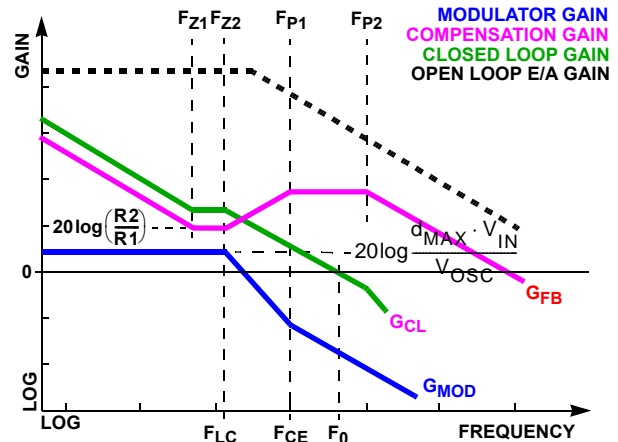

FIGURE 27. ASYMPTOTIC BODE PLOT OF CONVERTER GAIN
Figure 27 shows an asymptotic plot of the DC/DC converter's gain vs frequency. The actual Modulator Gain has a high gain peak dependent on the quality factor (Q) of the output filter, which is not shown. Using the previously mentioned guidelines should yield a compensation gain similar to the curve plotted. The open loop error amplifier gain bounds the compensation gain. Check the compensation gain at F_{P2} against the capabilities of the error amplifier. The closed loop gain, G_{CL}, is constructed on the log-log graph of Figure 27 by adding the modulator gain, G_{MOD} (in dB), to the feedback compensation gain, G_{FB} (in dB). This is equivalent to multiplying the modulator transfer function and the compensation transfer function and then plotting the resulting gain.